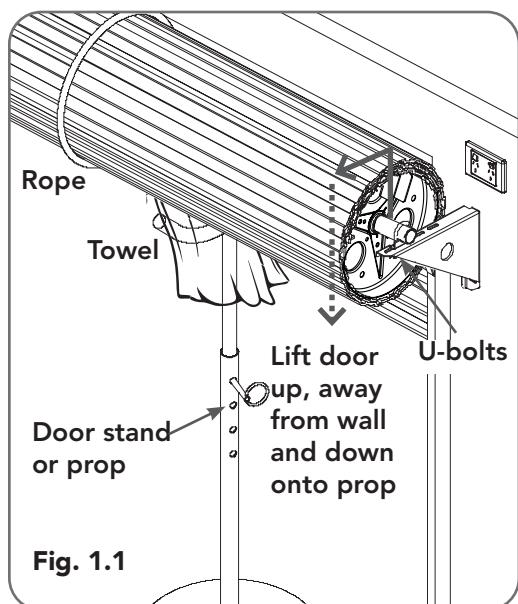

Fig. 1.1
- Lift the door up and away from the wall until clear of the door bracket, before lowering the door to rest on the door stand or prop. (Fig. 1.1)